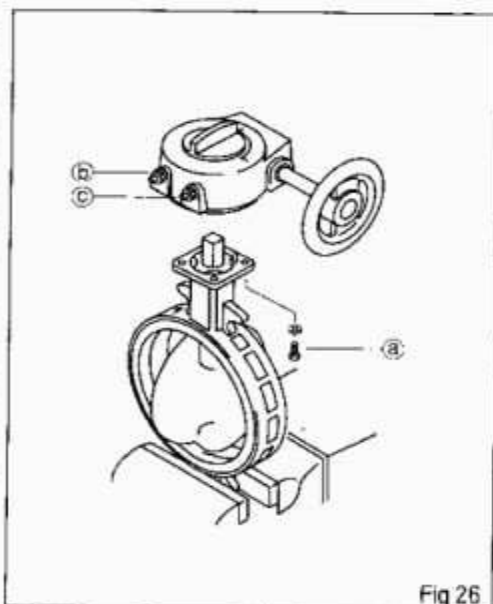

Fig 26
2. Gear operation type (Fig 26)